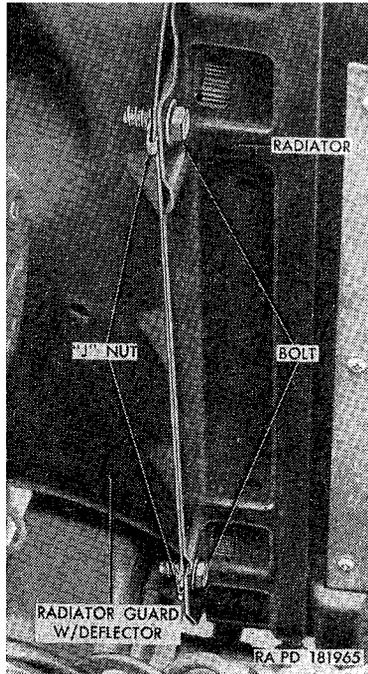

Figure 183. Radiator-to-guard panel "J" nuts—installed.
- (4) Remove the two bolts from the two radiator-to-guard panel "J" nuts (fig. 183) securing each side of the radiator guard to the radiator assembly.
- (4) Secure the radiator guard to the radiator by screwing two $\frac{5}{16}$ x $\frac{5}{8}$ bolts into the two radiator-to-guard panel "J" nuts on each side of the guard (fig. 183).